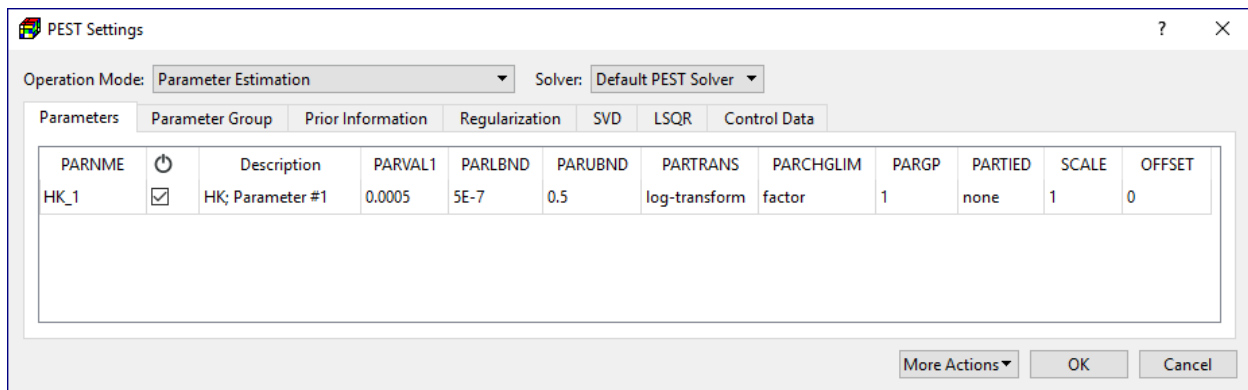

Figure 19. The PEST Settings dialog box
1. Select Models > PEST > Settings to open the PEST Settings dialog box (Figure 19). When the dialog box is opened for the first time, PM will search for the estimable parameters and put them in the Parameters table. If you define additional estimable parameters later, you will need to select More Actions > Search for Parameters to add them to the table. In this example, a parameter named HK\_1 has been added to the table with the following values: